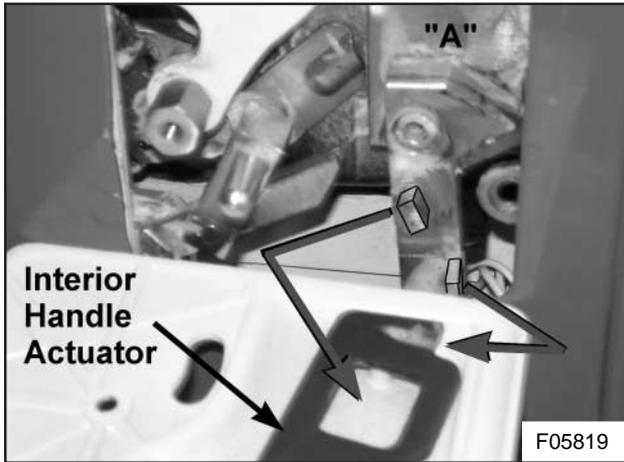

Figure 33: Position of upper and lower adapter linkage A tabs
- 5) Install the interior handle, making sure the upper and lower tabs of adapter linkage A are positioned properly with the actuator on the backside of the inside plate assembly (see Figure 33).